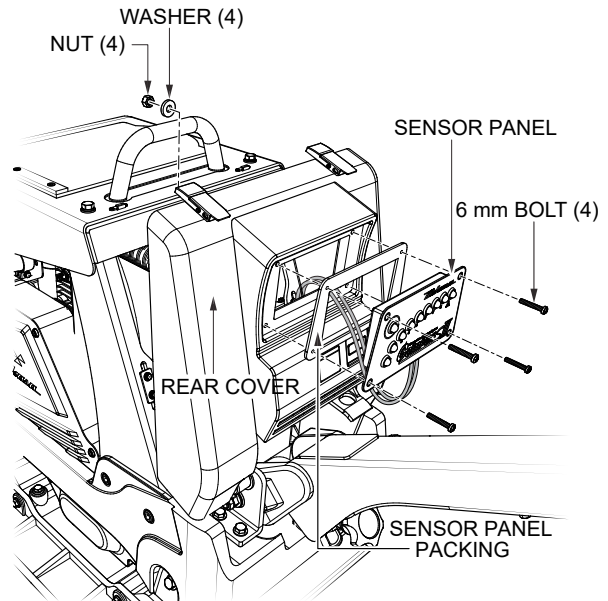

Figure 33. Sensor Panel Installation
- Place the sensor panel packing (P/N 464350510) onto the back of the sensor panel. See Figure 33.
- Place the sensor panel into the open space in the rear cover. See Figure 33.